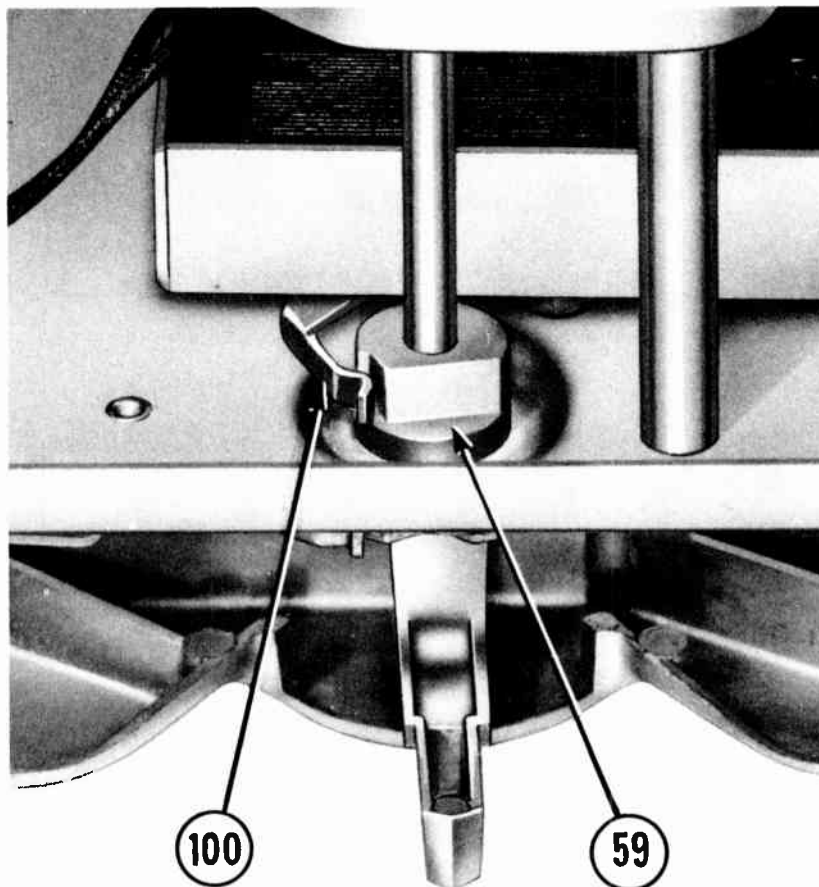

Fig. 4 — MOTOR POSITION ADJUSTMENT
Increase pressure of motor shaft against the idler wheel (Fig. 10) by bending cam followers. (Figs. 4, 5, 6).
Increase pressure of motor shaft against the take-up wheel by bending the cam followers. (Figs. 4, 5, 6, 10).
- 7 — On the rubbing surfaces of the switch cam. (Illustration 100, Fig. 4).